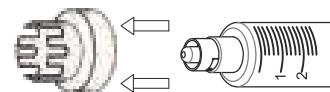
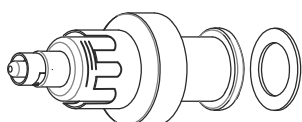
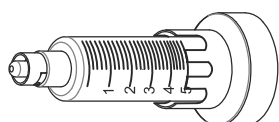
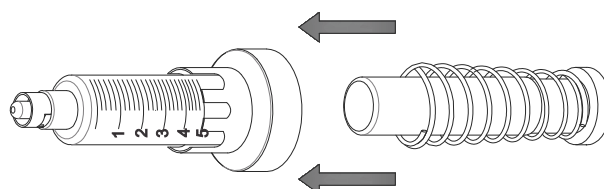

Fig. 7A
Fig. 7B
Fig. 7C
Fig. 7D
Insert the syringe barrel (3) inside the metal extension (1) as shown in Fig 7A. Place the SS washer (2) over the flange of the barrel (Fig 7B & Fig 7C). Now insert the syringe plunger with tapered spring inside the syringe barrel (Fig 7D). Ensure the wider side of the tapered spring comes in contact with the SS washer